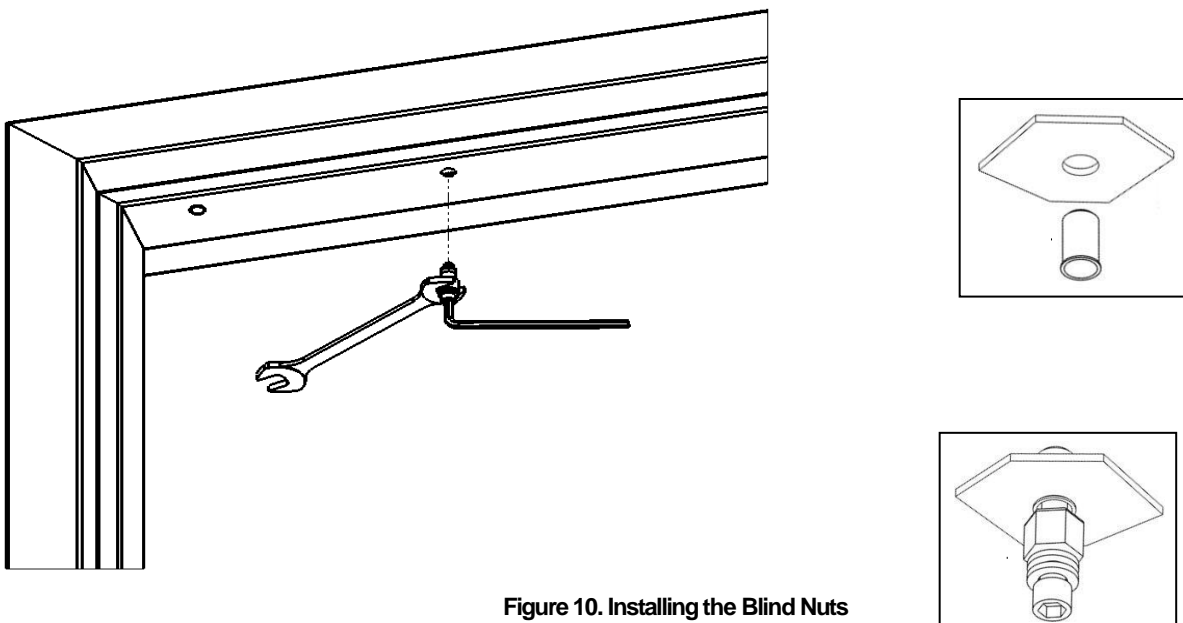

Figure 10. Installing the Blind Nuts
2. INSTALL blind nut into each  $\frac{3}{8}$ " diameter hole using the provided tool (see Figure 10, "Installing the Blind Nuts").